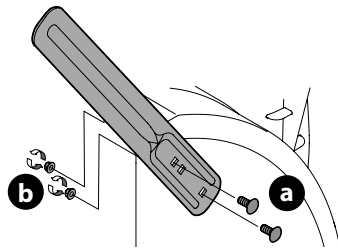

Figure 37
1. Remove two carriage bolts (a) and lock nuts (b) that secure each drift cutter, and remove them from the sides of auger housing (Figure 37).
2. Turn the drift cutters and position them as shown in Figure 37 to the outside of the auger housing.